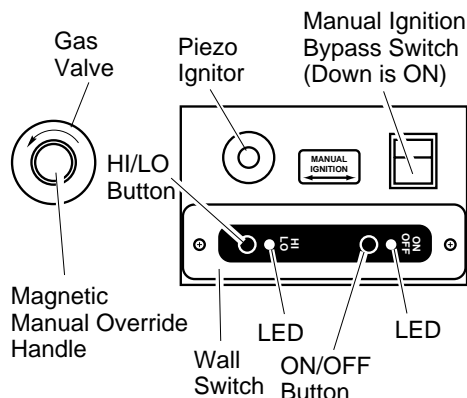

Figure 52 - Control Locations
- Set manual ignition bypass switch on control panel to ON position (manual ignition position). See Figure 52.
- While holding the valve handle in the PILOT position, press and release piezo ignitor button (see Figure 52). This will light the pilot. If needed, keep pressing ignitor button until pilot lights.